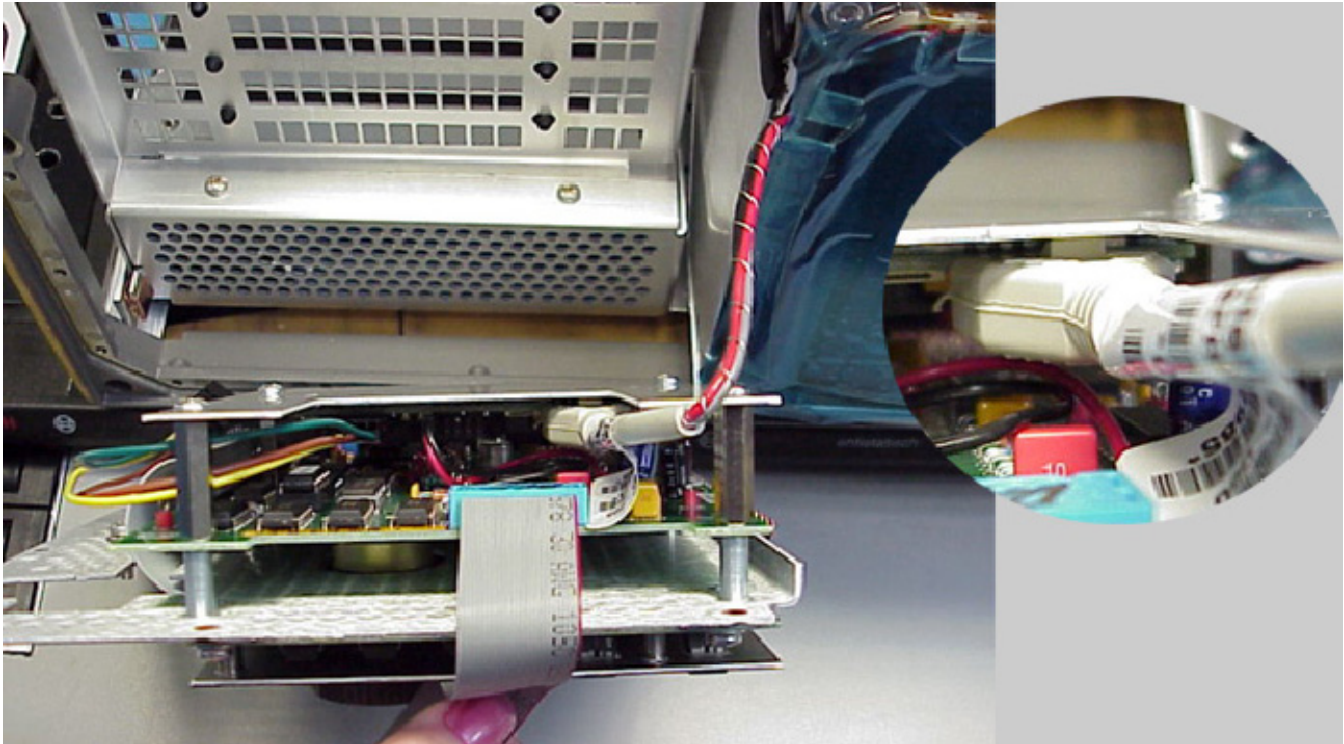

Figure 14: Installing the Keypad board assembly (bottom)
- a. Attach the touch panel cable to J933 on the Keypad board assembly. The key on the plug should be towards the shield. Make sure to route the cable outside of the standoffs. See Figure 14 on page 16.